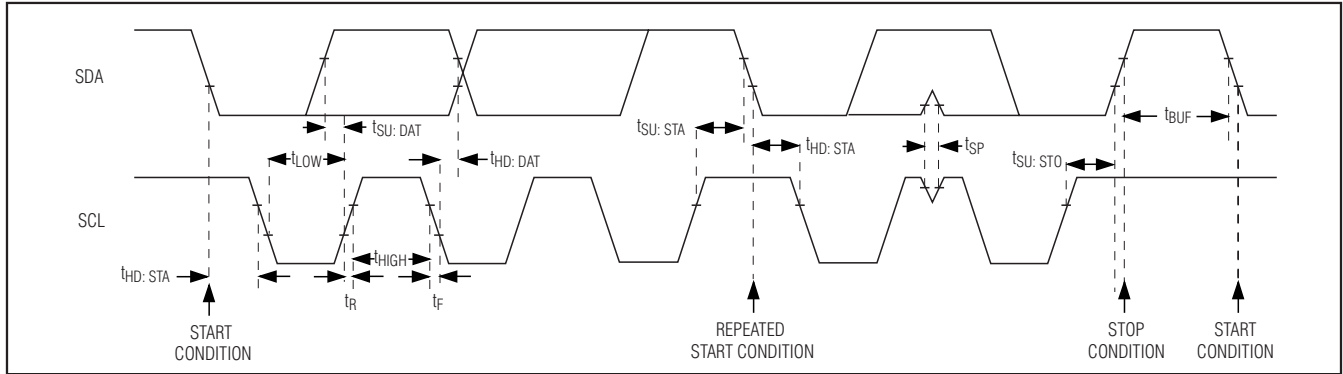

Figure 9. I2C Serial Interface Timing Diagram
The MAX9526 features an I2C/SMBus™-compatible, 2-wire serial interface consisting of a serial-data line (SDA) and a serial-clock line (SCL). SDA and SCL facilitate communication between the MAX9526 and the master at clock rates up to 400kHz. Figure 9 shows the 2-wire interface timing diagram. The master generates SCL and initiates data transfer on the bus. The master device writes data to the MAX9526 by transmitting the proper slave address followed by the register address and then the data word. Each transmit sequence is framed by a START (S) or REPEATED START (Sr) condition and a STOP (P) condition. Each word transmitted to the MAX9526 is 8 bits long and is followed by an acknowledge clock pulse. A master reading data from the MAX9526 transmits the proper slave address followed by a series of nine SCL pulses. The MAX9526 transmits data on SDA in sync with the master-generated SCL pulses. The master acknowledges receipt of each byte of data. Each read sequence is framed by a START or REPEATED START condition, a not acknowledge, and a STOP condition. SDA operates as both an input and an open-drain output. A pullup resistor, typically greater than 500 $\Omega$ , is required on SDA. SCL operates only as an input. A pullup resistor, typically greater than 500 $\Omega$ , is required on SCL if there are multiple masters on the bus, or if the single master has an open-drain SCL output. Series resistors in line with SDA and SCL are optional. Series resistors protect the digital inputs of the MAX9526 from high-voltage spikes on the bus lines, as well as minimize crosstalk and undershoot of the bus signals.